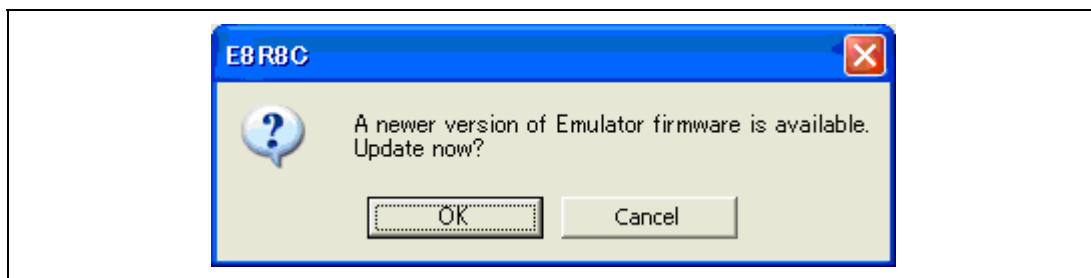

Figure 3.15 Dialog Box for confirming the E8 firmware download
8. When the version of the E8 firmware downloaded into the emulator is old, the message box shown in Figure 3.15 will be displayed.